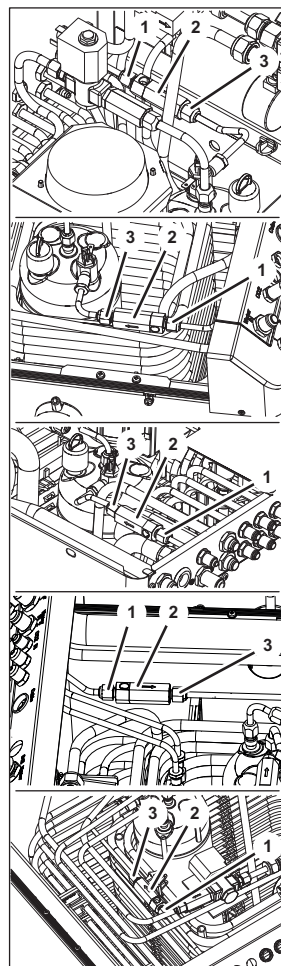

Figure 109
1. Release the couplings (Figure 109/1 and 3) on the non-return valve (Figure 109/2).
2. Lift the non-return valve (Figure 109/2) out of the unit.
5. Attach the non-return valve (Figure 109/2) using the couplings (Figure 109/1 and 3).